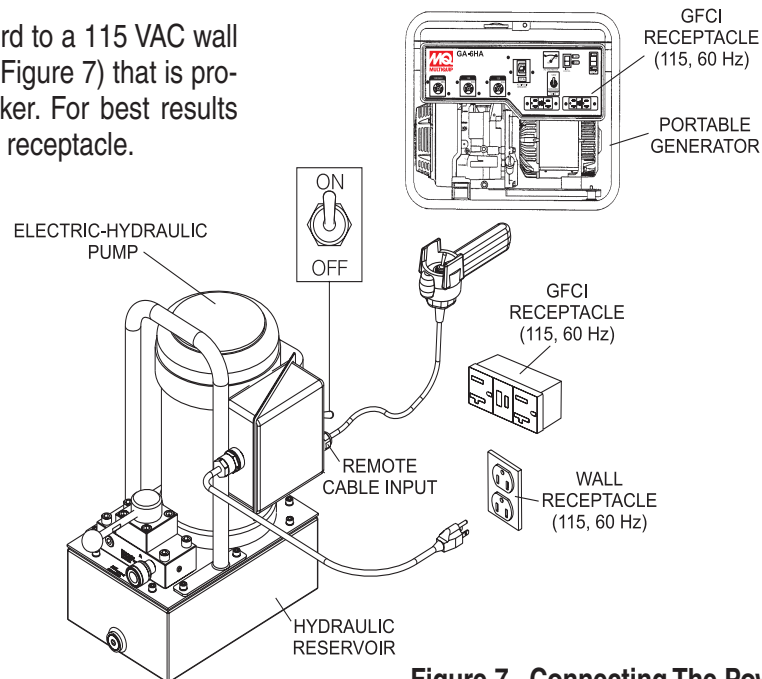

Figure 7. Connecting The Power
3. Connect the pump's AC power cord to a 115 VAC wall receptacle or portable generator (Figure 7) that is protected by a 20 amp circuit breaker. For best results connect the power cord to a GFCI receptacle.
5. To apply power to the electric-hydraulic pump, place the ON/OFF toggle switch (Figure 7) to the ON position (up).